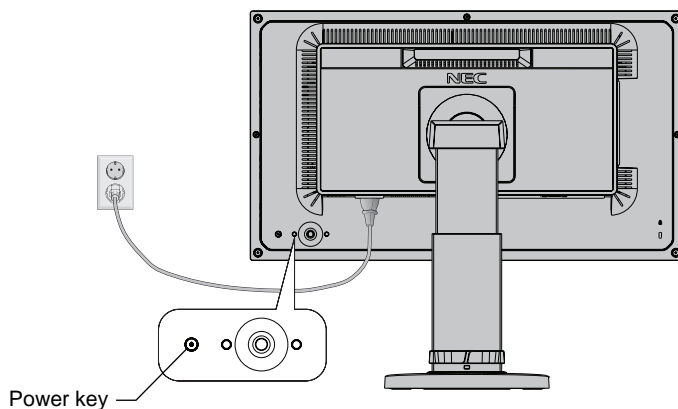

Figure E.1
9. Turn on the computer and the monitor by pressing the power button on the back of the monitor (**Figure E.1**).